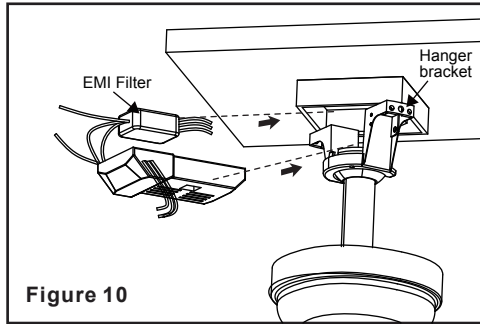

Figure 10
1. (Figure 10) Place the EMI filter into the ceiling box before installing the receiver into the bracket. Insert the receiver into the mounting bracket with the flat side of the receiver facing the ceiling.